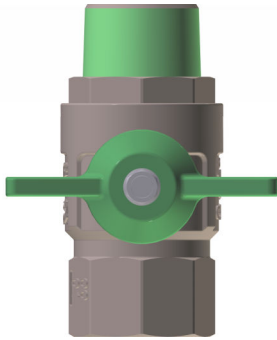

Fig. 22: Main shut off valve closed
- The main shut off valves (Fig. 22) are closed.